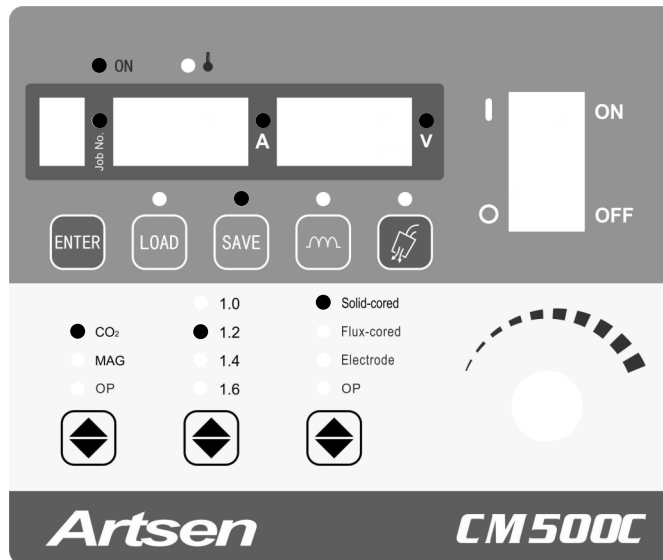

Figure 3-18 Saving parameter settings
3. Select the welding parameter settings to be saved. Figure 3-18 shows the control panel where the parameter settings to be saved.
3. Use the knob to select a channel number (0 - 9). See Figure 3-18.